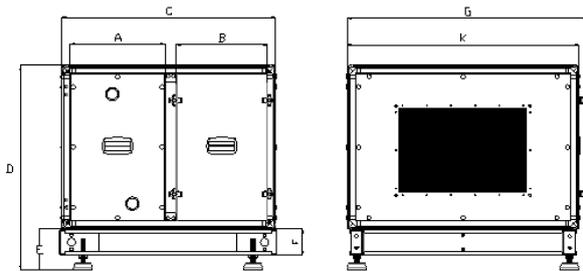

Fig. 106
- Cooling coil water module dimensions can be seen below. (Fig. 106)